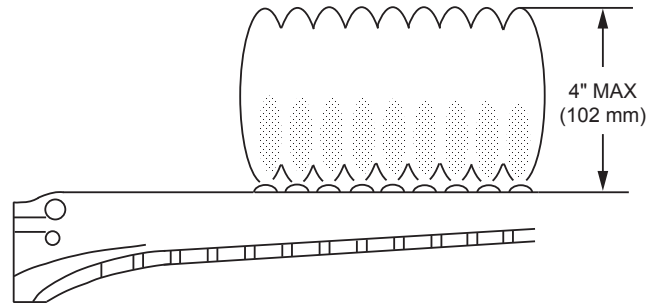

Figure 52. Main Burner Flame
4. Make visual check of the burner and pilot flames. Yellow flame means restriction of the air openings. Lifting or blowing flame indicates high gas pressure. Low flame means low gas pressure. Should the latter occur, shut the heater off and contact your gas supplier or qualified service agency. See **Figure 52**.